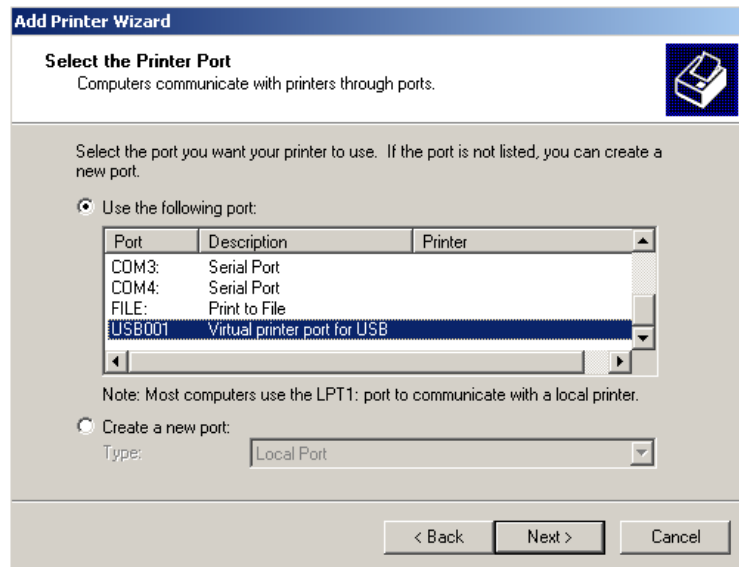

Figure 3-36 Select Printer Port
- 8.) Select the corresponding Printer Port (e.g., Figure 3-36 = USB001) and click NEXT.